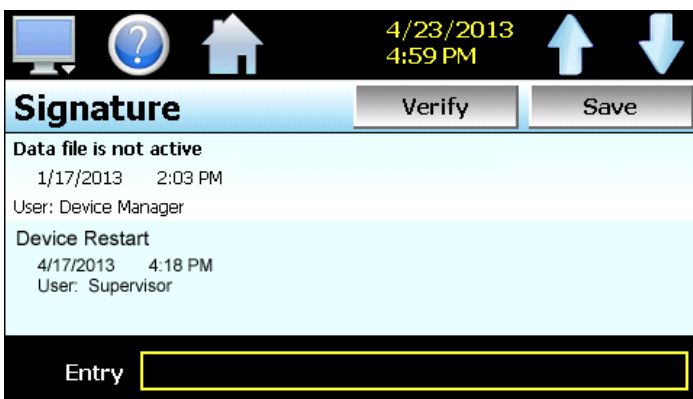

Fig. 86: Signature List
4. The Signature screen (Fig. 86) displays signatures currently associated with this file.